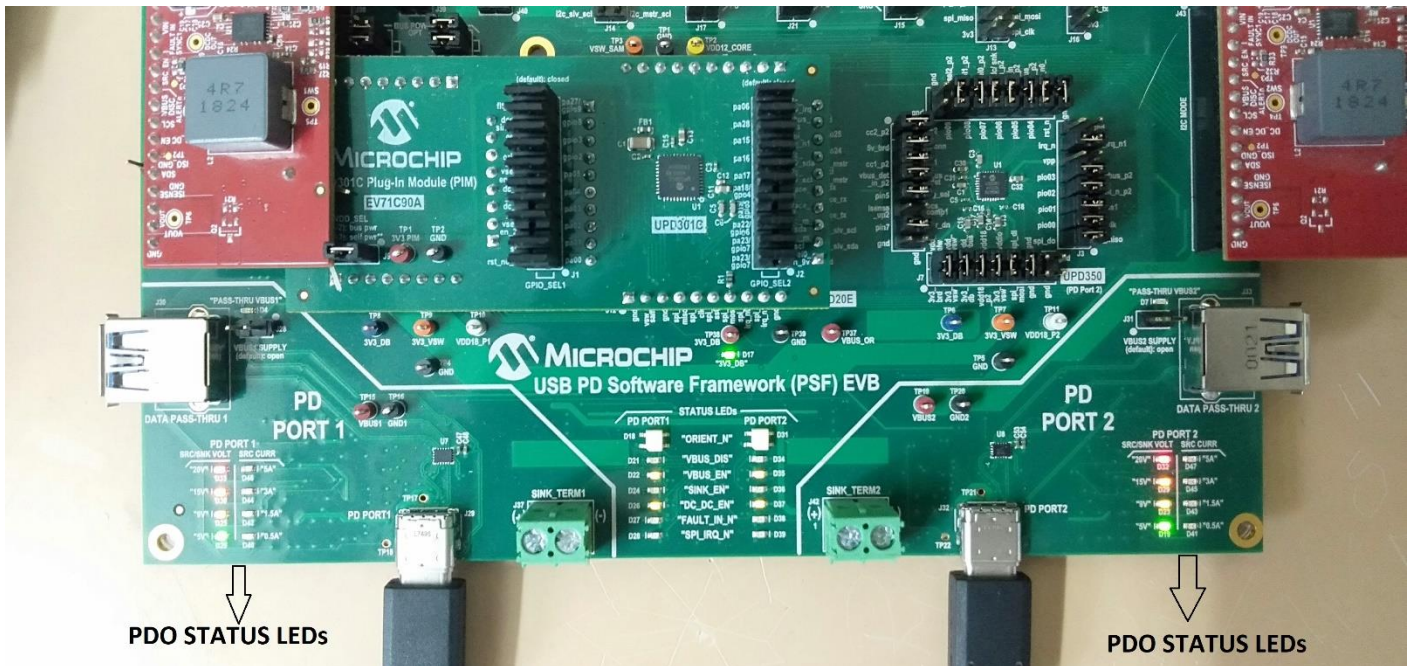

Figure 7.2 PDO Status LEDs after device attach
4. Once an explicit power contract negotiation is in place, the device starts charging. PDO status LEDs will turn ON indicating the negotiated voltage as shown in Figure 7.2
- In our case, Microchip's UPD301C Basic Sink AE connected in Port 1 and Port 2 and have requested 20V. The status of PDO status LEDs is shown in Figure 7.2